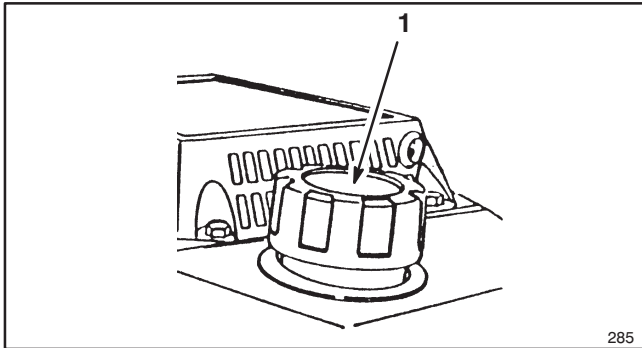

Figure 10
1. Clean around fuel tank cap (Fig. 10) and remove cap from tank. Do not fill tank full. Using unleaded gasoline, fill fuel tank to within 6 to 13 mm (1/4 to 1/2 inch) from top of tank, not into the filler neck.